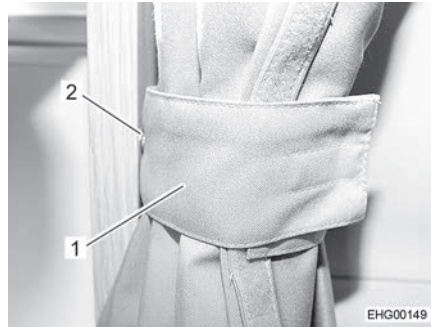

Fig. 7 Curtain shade, secured
- Secure both halves of the curtain shade with the loop (Fig. 7,1) and snap fastener (Fig. 7,2).